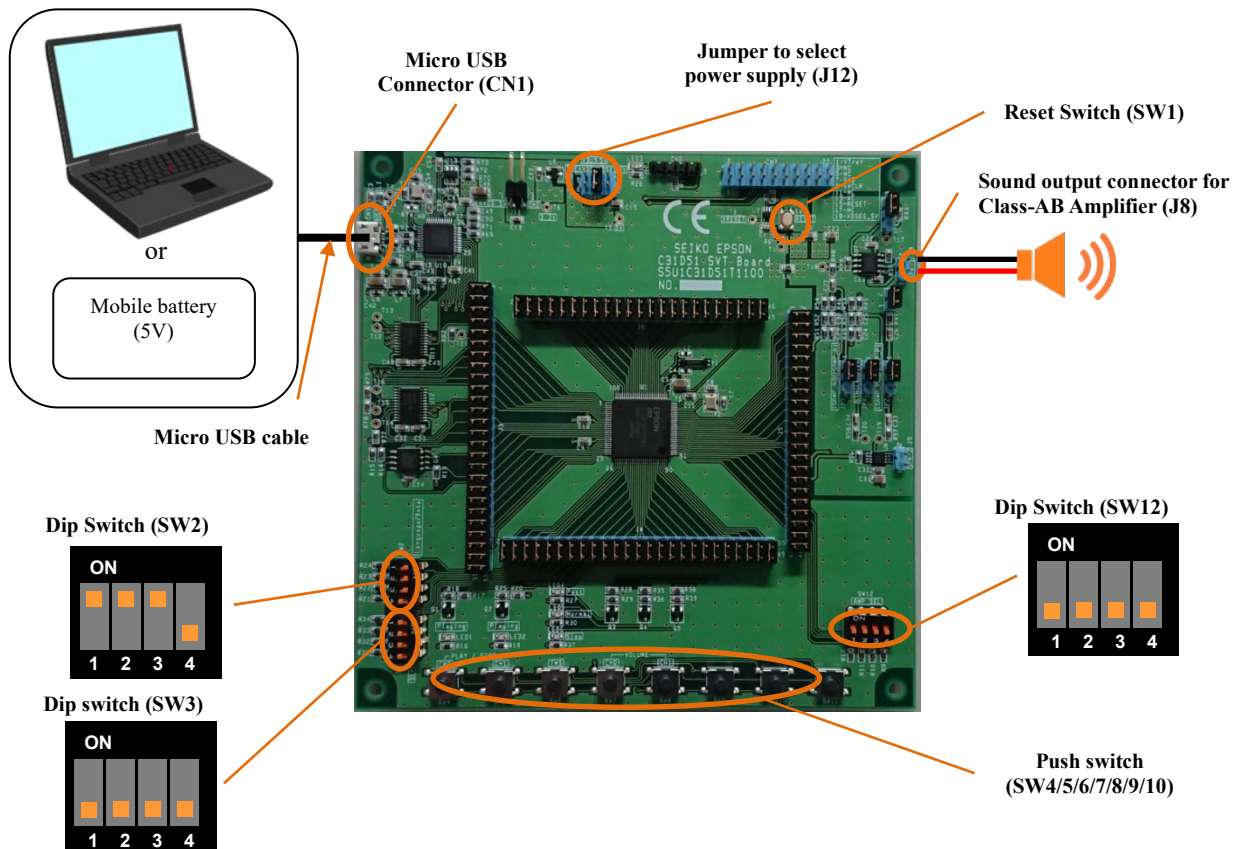

Figure 4.1.1 Layout of Main Parts for Demo Mode
- 5) Set the DIP-switches. (Refer to Figure 4.1.1)